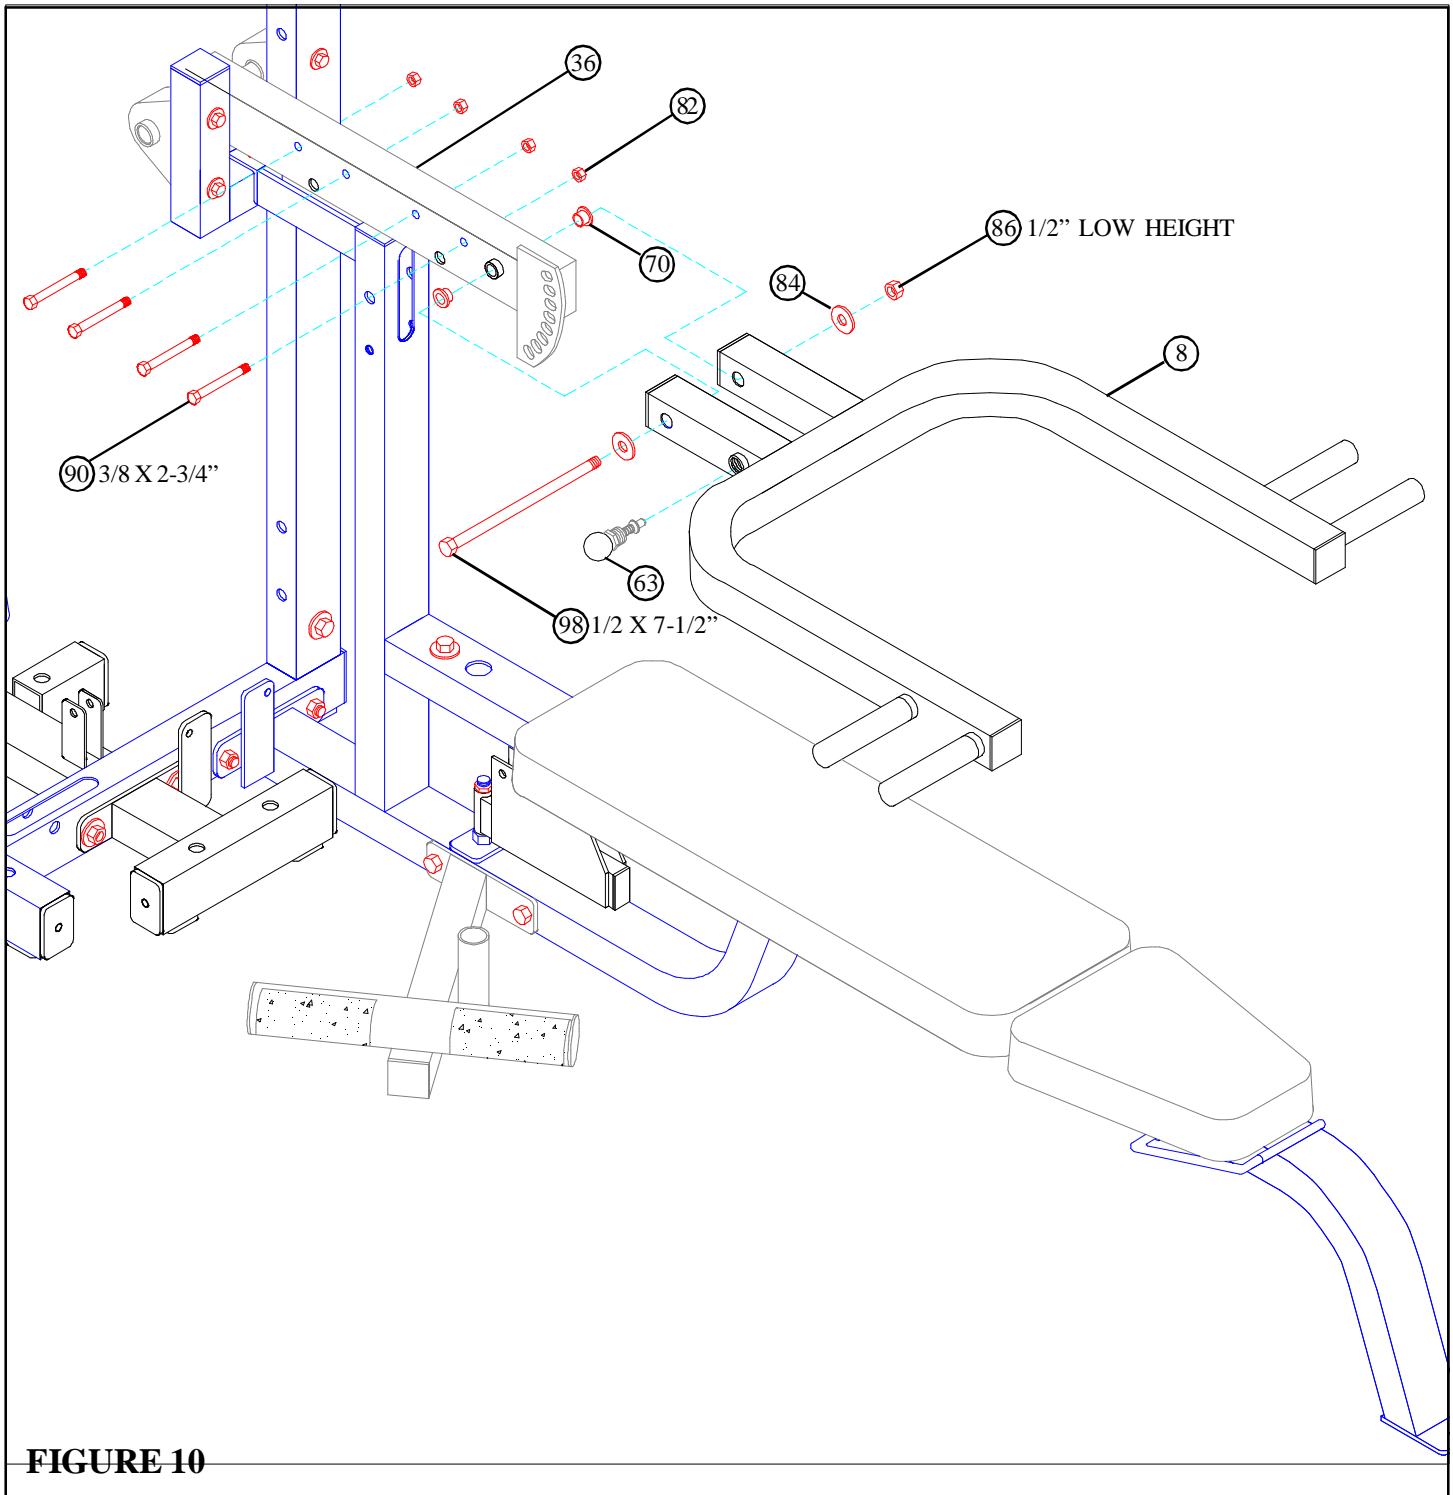

**FIGURE 9**
- **LOOSELY** assemble the PRESS ARM ADJUST (36) to the REAR UPRIGHT (1) using two 1" PILLOW BLOCK BEARINGS (49), four 3/8 X 3-1/4" BOLTS (91), four 3/8" WASHERS (80), and four 3/8" LOCK NUTS (82). (**NOTE: Assemble PILLOW BLOCKS (49) so the set screws are on the outside, this will allow more adjustment.**) See FIGURE 9.
- Center PRESS ARM ADJUST (36) to line up with the post on the PRESS BASE (38) and securely tighten set screws on the PILLOW BLOCK BEARINGS (49). See FIGURE 9.
- Adjust the PILLOW BLOCK BEARINGS (49) until the PRESS ARM ADJUST (36) is level, then **SECURELY** tighten bolts.
- **SECURELY** assemble CALF/LOW ROW (9) to the PRESS BASE (38) using two 1/2 X 4" BOLTS (96), two 1/2" WASHERS (84), and two 1/2" LOCK NUTS (85) as shown in FIGURE 9.
- Apply two NON-SKID STRIPS (61) to the CALF/LOW ROW (9) as shown in FIGURE 9.